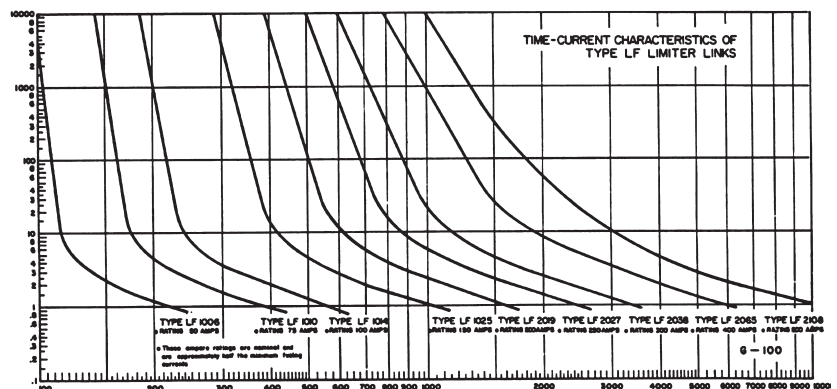

Figure 5: Current in Amperes Replaceable-link Limiters
Replaceable-link limiters, which provide faster time-current characteristics (Figure 5), are used in smaller networks, on the fringes of larger networks, at points where radial feeders leave a network, and for fusing service cables. As its name implies, this limiter is also distinctive in that its fusible link is replaceable.
1. Plot the damage characteristic curve of the cable insulation in the system. Curves for Class L620 (260° C or 500° F), appear in Figure 5.